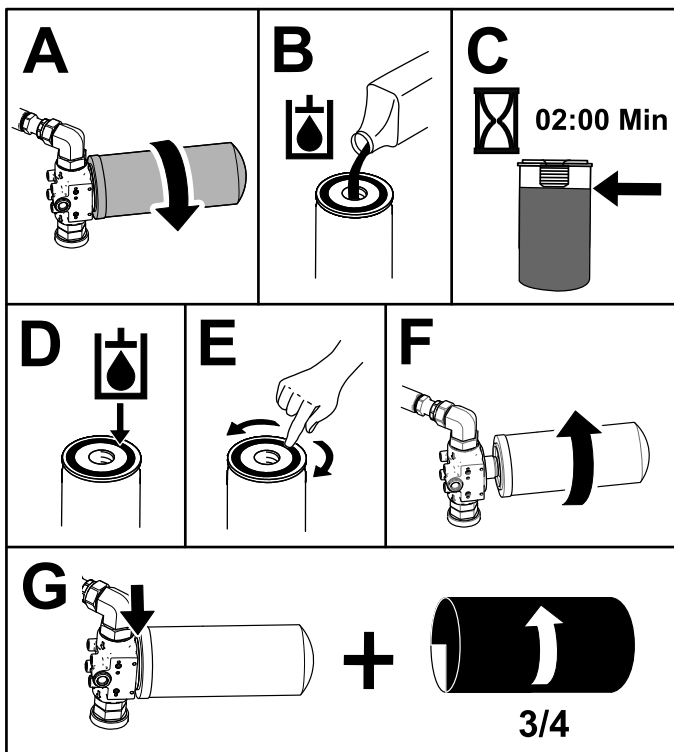

Figure 79
5. Place a drain pan under the front filter and replace the filter (Figure 79).